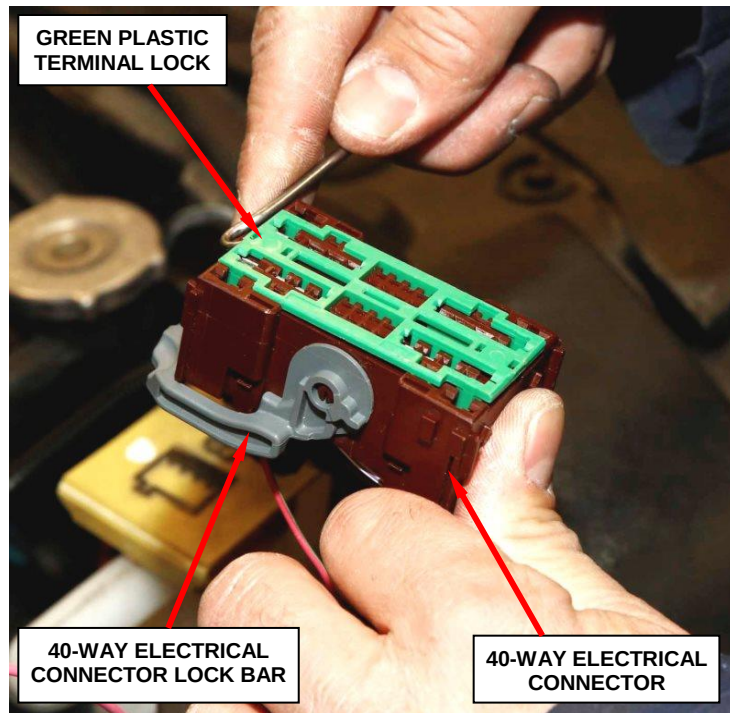

Figure 16 – Green Connector Lock
19. Remove and save the 40-way electrical connector green plastic terminal lock (Figure 16).
25. Install the 40-way electrical connector green plastic terminal lock (Figure 16).